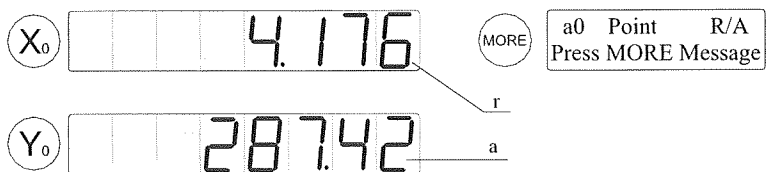

Figure 1-9
- b) In Polar coordinate, the information of the point is displayed as in figure1-9. The displayed value of the X axis indicates the distance from the very